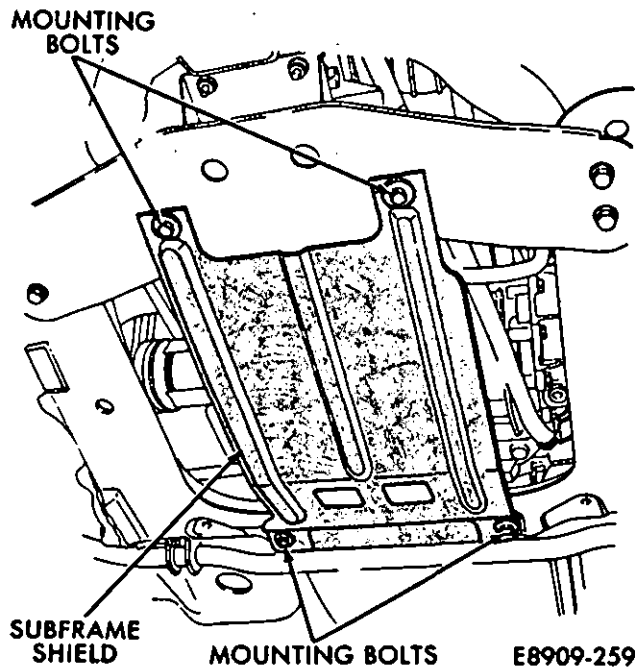
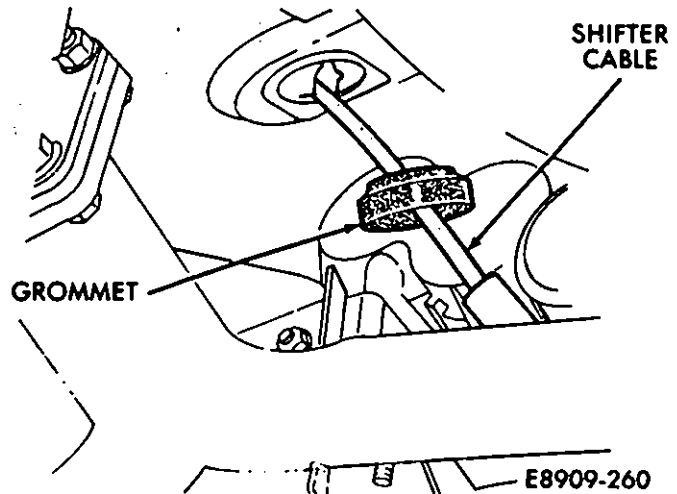
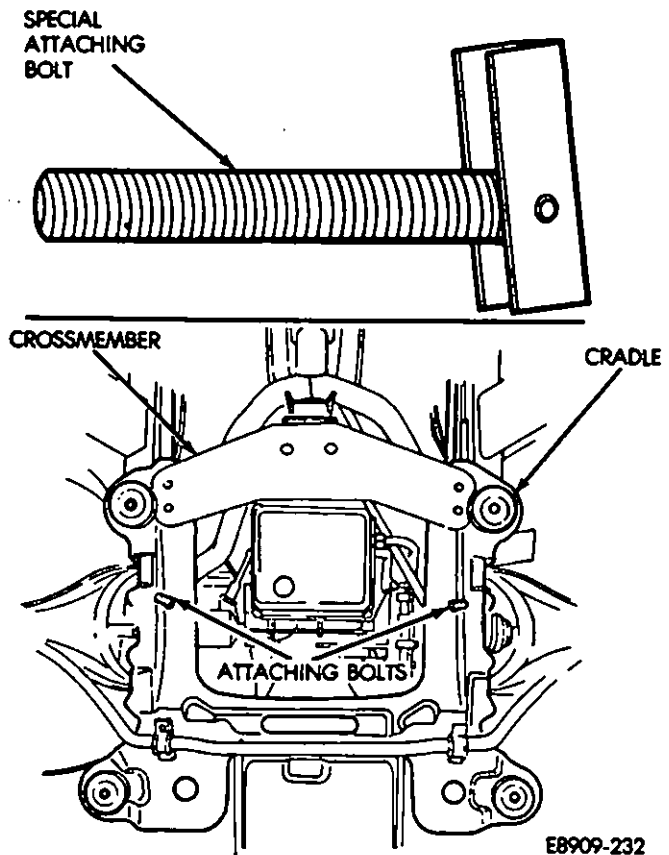

Fig. 18—Front Sill Shield
Fig. 19—Shifter Cable
Fig. 20—Special Attaching Bolts
(56) Remove the front sill shield by unscrewing the mounting bolts (Fig. 18).
(57) Disconnect oxygen (O₂) sensor connector at Y-pipe.
(58) Pull the grommet surrounding the shifter cable down (Fig. 19).
(59) Grasp the shifter cable and pull it through the hole in the body (Fig. 19).
(60) Disconnect the catalytic converter from the Y-pipe.
(61) Install special attaching bolts into the cradle by pushing the large end of the channel iron into the hole in the cradle (Fig. 20).
(62) Jiggle the bolt until the channel iron lays flat in the hole. Do the same with the other bolt.